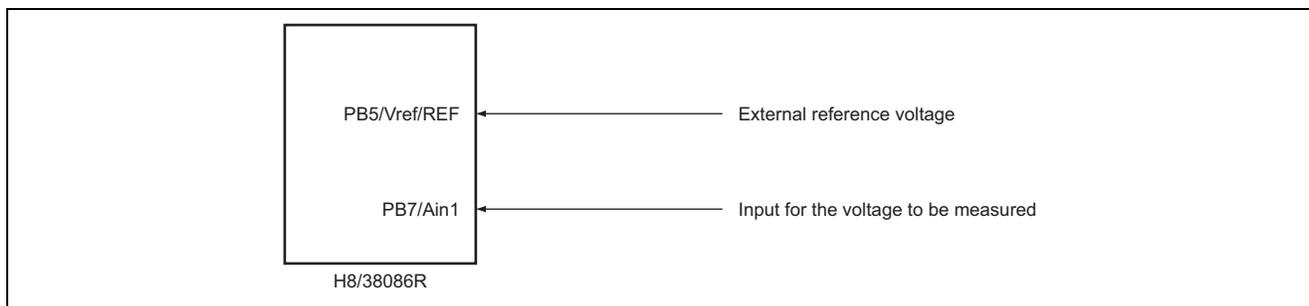

Figure 1 Setup of the $\Delta\Sigma$ A/D Converter for Measurement Results to be Averaged
- As is shown in figure 1, the $\Delta\Sigma$ A/D converter of the H8/38086R is used to measure the voltage input to the Ain1 pin.